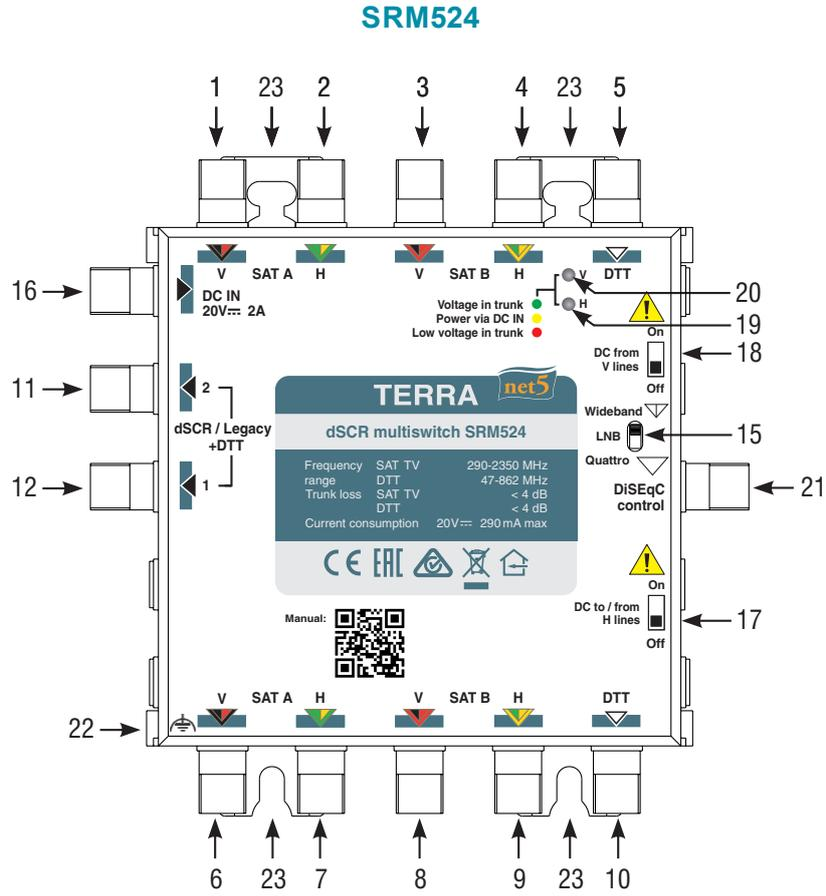

Figure 1. External view of the multiswitch SRM524
The multiswitches have 1 DC input port and dedicated control/configuration port (see Figure 1 and chapter „Installation instructions”).
DO NOT OPERATE THE DC POWER TO H or V TRUNK LINES SWITCHES (see Figure 1, pos. 17, 18) unless you totally understand the power demands of the system and confirmed they are 3.2 A total or less per H or V lines. **ALWAYS LEAVE THE DC POWER TO H or V TRUNK LINES SWITCHES IN THE “OFF” POSITION** when inserting the SRM524, SRM544 and SRM524T, SRM544T into an existing multiswitches installation.
2. All outputs are configured to connect legacy STB (supports +13V/+18V/22 kHz signals), but it switches to dynamic mode SCR/dSCR if receives a DiSEqC command according EN50494/EN50607. Output User Bands (UB) are the same in all subscriber outputs (see Table 3).
5. DC power to H / V trunk lines switches set (see Figure 1, pos. 17, 18) in position “OFF”.